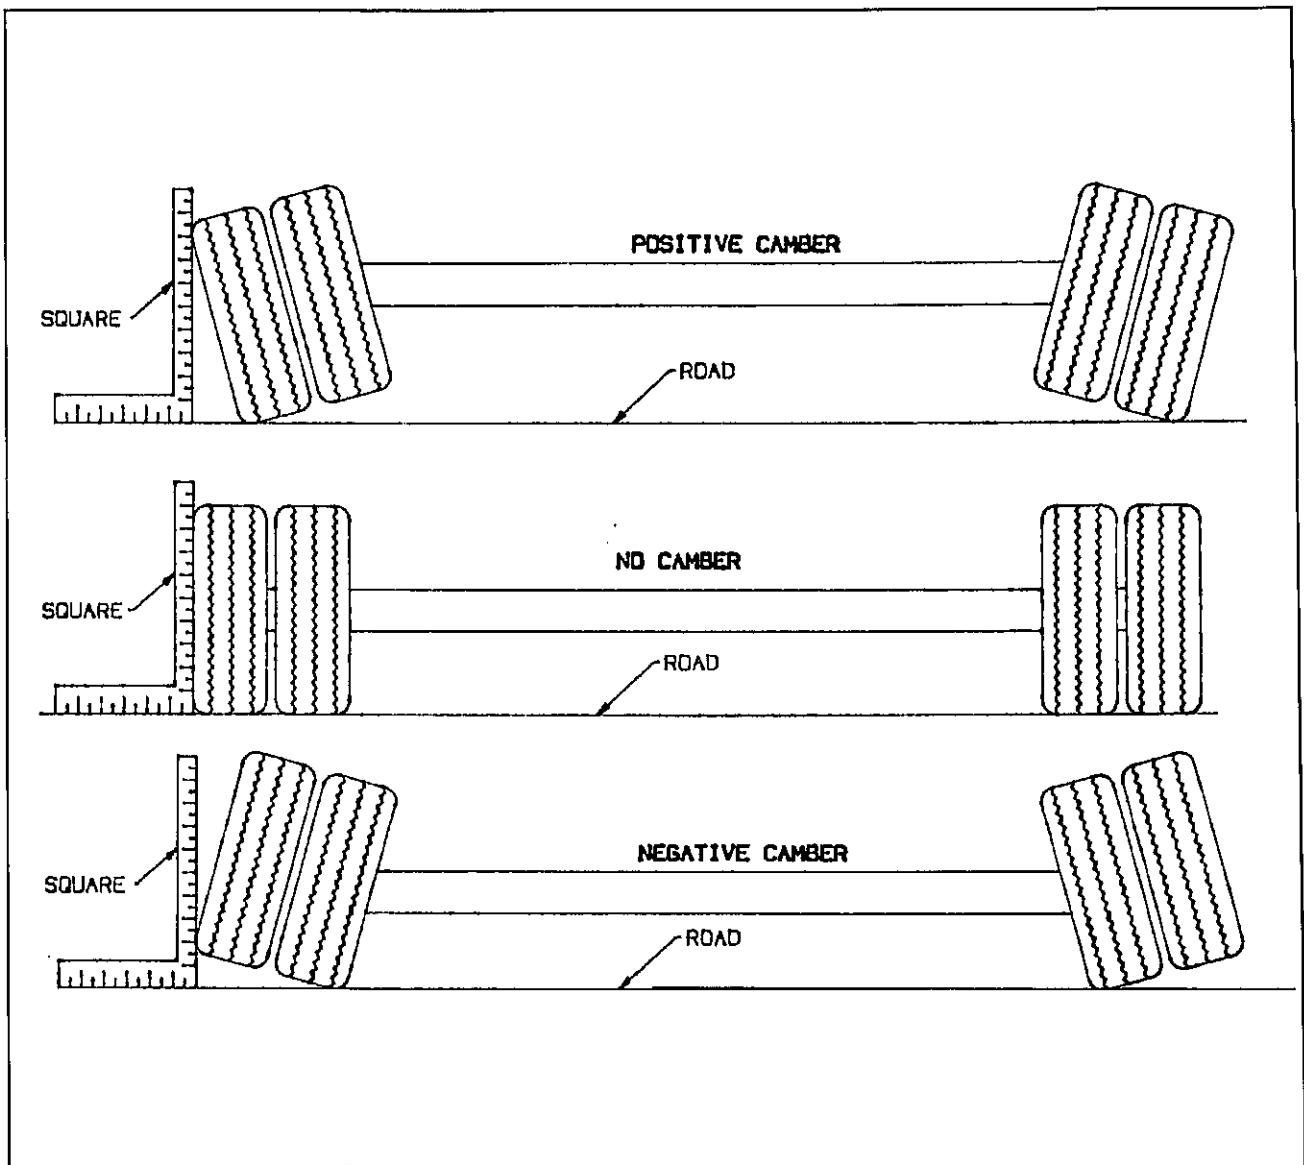

Fig. 4-7 Examples of Camber
d. Follow the same procedures as in Paragraph 4-10.1 b and c, except place the axle gauge above and below the axle. If gauge point gap is found, the axle has positive or negative camber. The semitrailer axle has no camber from the factory, thus if it is found to have positive or negative camber, axle replacement is necessary (see Figure 4-7 for examples of camber).